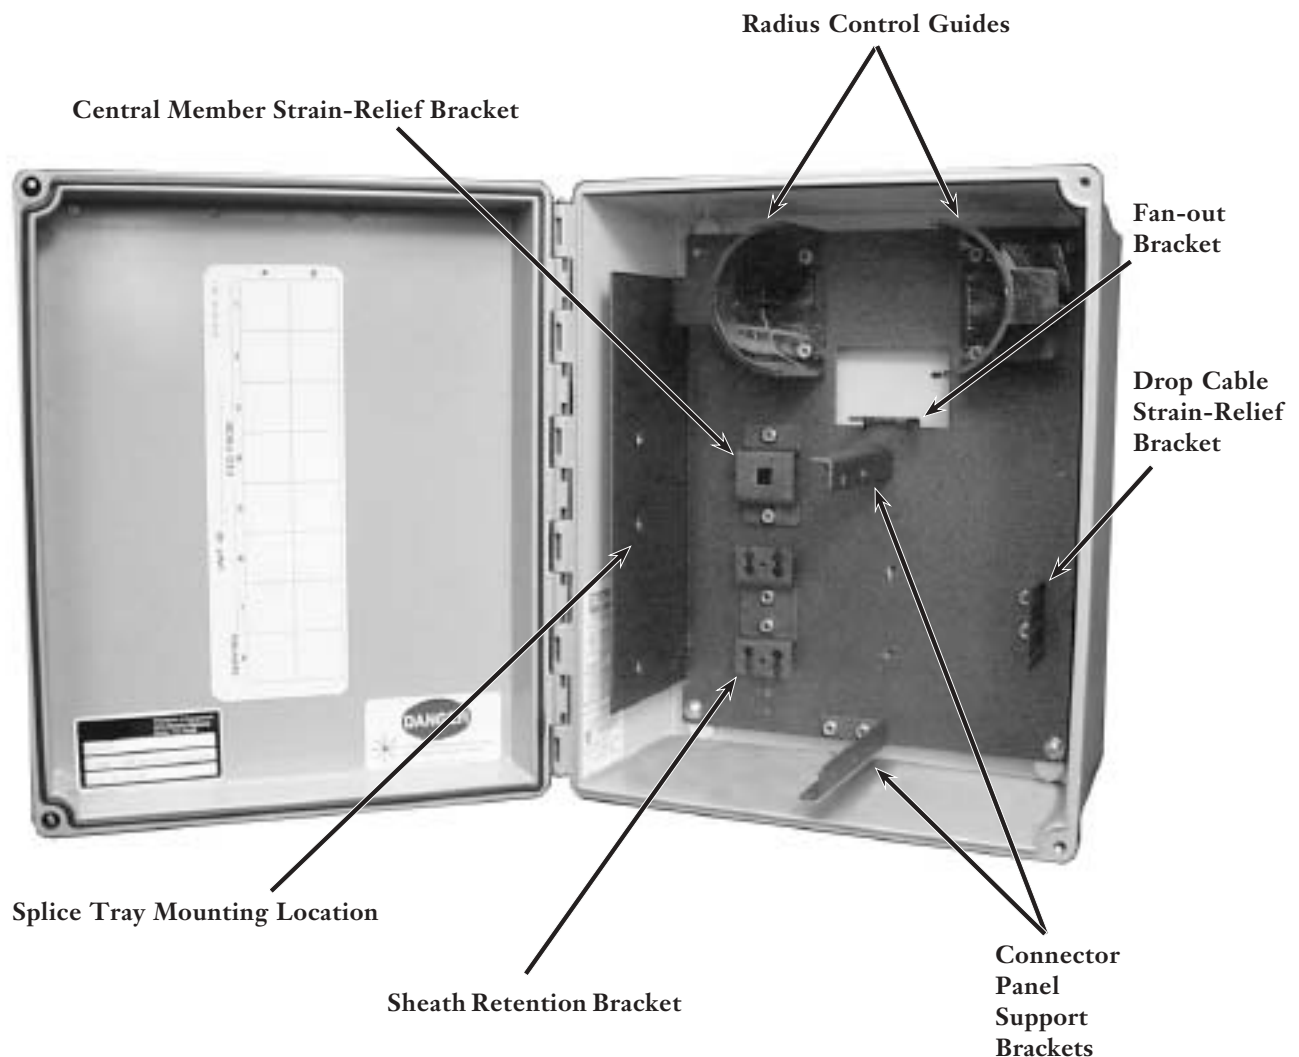

Figure 2
5.1 Components are illustrated in Figure 2. The base plate is the dark metal plate that holds the components inside the enclosure. It is secured by four screws.